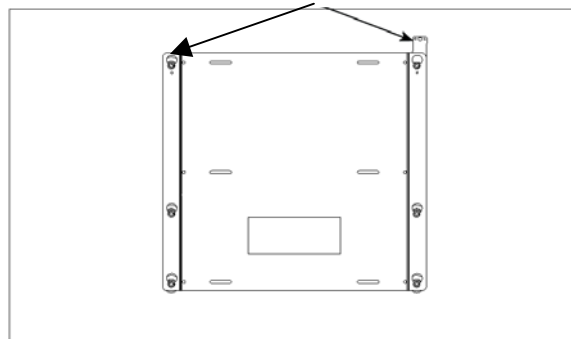

Figure 5
4. With the aid of another person, lift the plasma display up to the mount, align the mounting buttons on the plasma with the teardrop slots in the mount, and set the plasma into place (see Figure 5).
5. Position (raise) the flags to secure the plasma (see Figure 5).